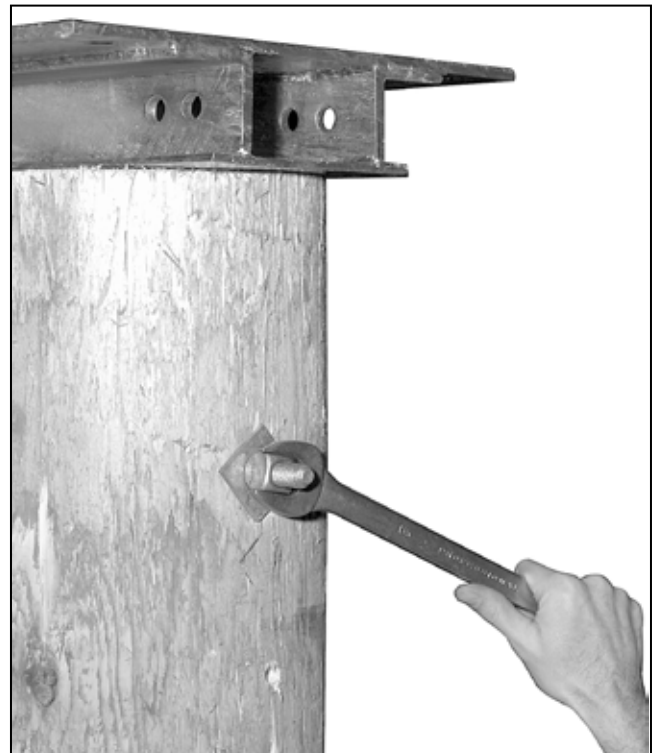

Figure 11. Tighten through-bolts.
- STEP 8.** Fully tighten the bolts. See Figure 11. Afterward, remove the lifting slings.